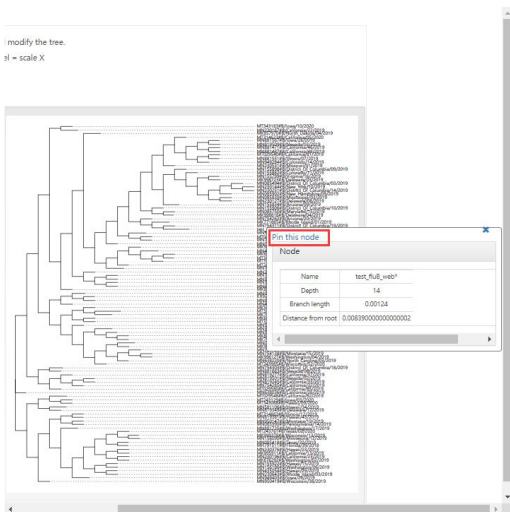

Figure 3-31-a Check the phylogenetic analysis report
- 1) **[Analysis Report]** in **[Report]** interface can preview the analysis report of single sample (Figure 3-31), after clicking a certain node in the phylogenetic analysis result, user can click 'Pin the code' to close the pop-up window. Furthermore, user can adjust the position of the pop-up window by dragging the tree diagram with the left mouse button (Figure 3-31-a).